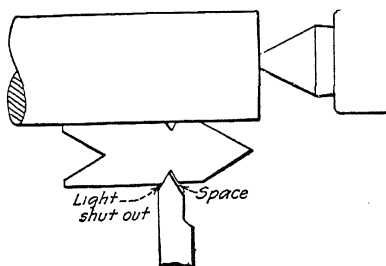

FIG. 184.—Setting the thread tool.
4. The cutting point of a thread tool should be exactly on center, and the cutting edges set exactly to gauge (see Fig. 184). Do not jam the thread tool into the V of the gauge, but leave a little space between. With the gauge against the work